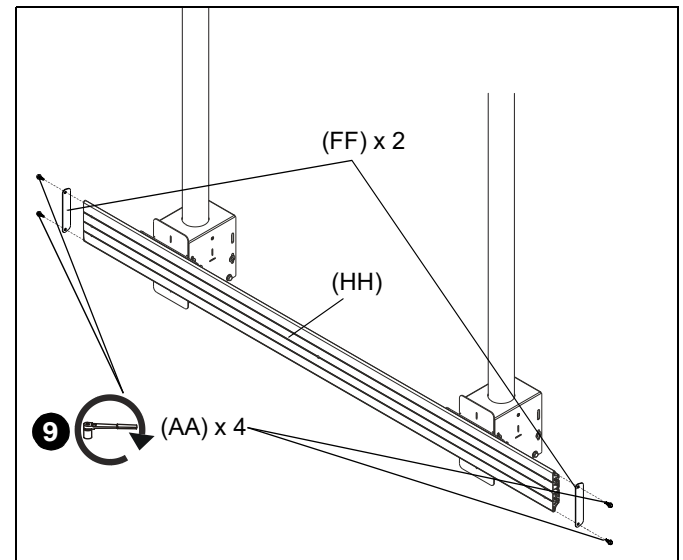

Figure 8
9. Use four 1/4 x 3/4" hex flange bolts (AA) to secure two side covers (FF) to ends of rail (HH). (See Figure 8)